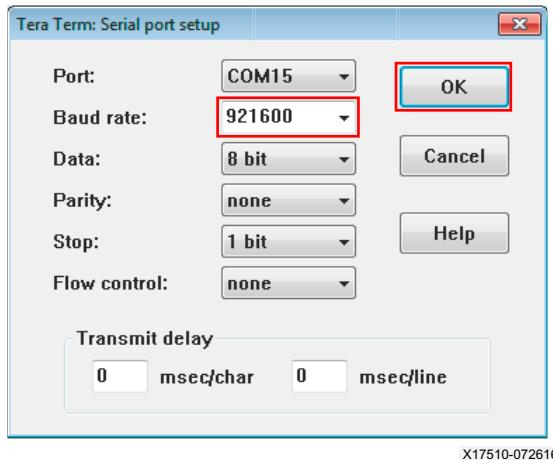

Figure 14: Tera Term Serial Port Settings
2. Launch Tera Term and under the **Setup > Serial port...** menu use the values shown in Figure 14. Ensure that the Standard COM Port is selected (Refer to the Checklist and Debug Tips step 4 for details).